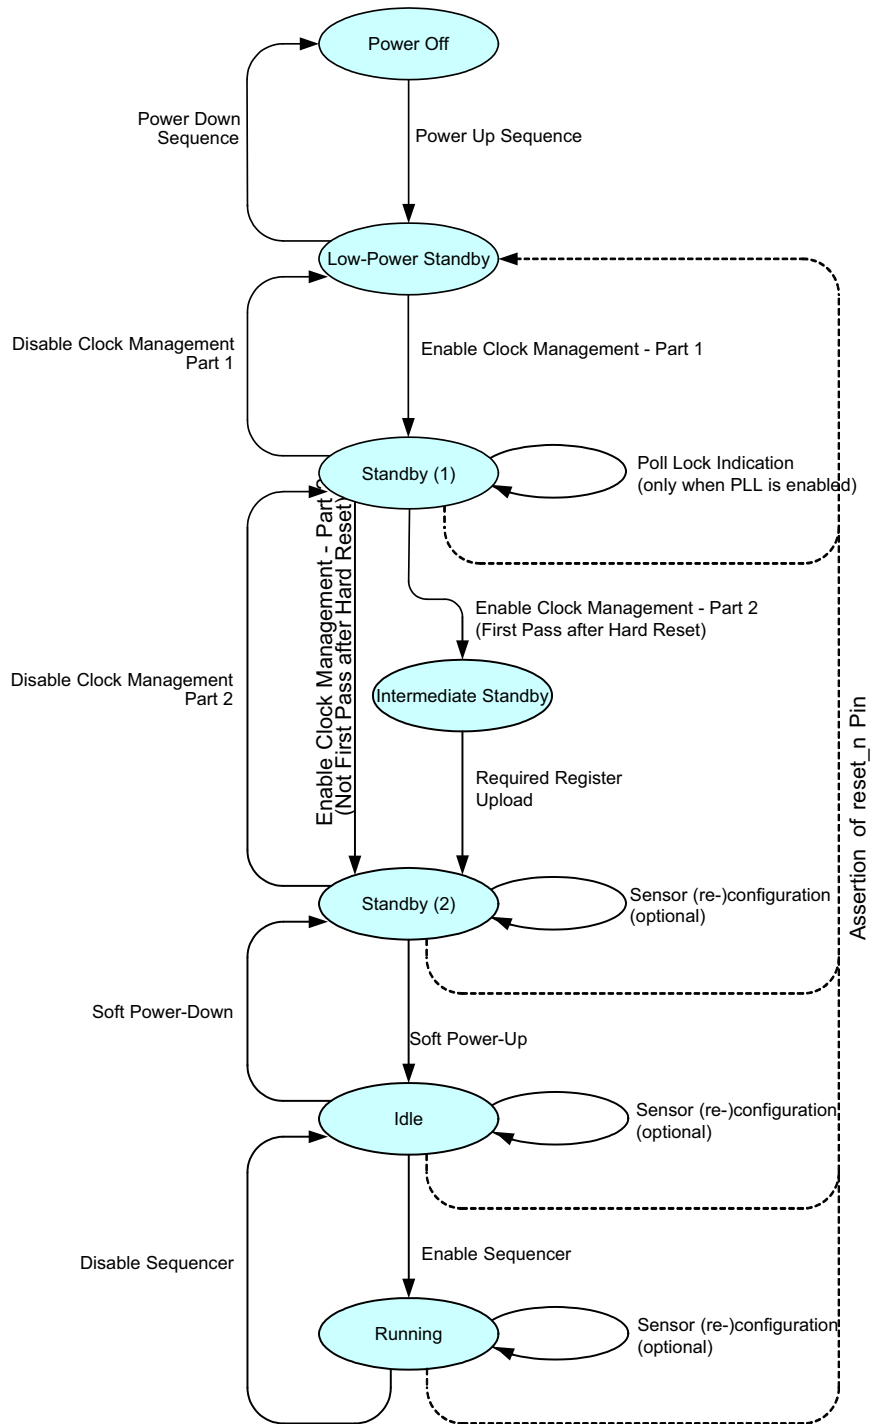

Figure 17. Sensor Operation Flowchart
Figure 17 shows the sensor operation flowchart. The sensor has six different 'states'. Every state is indicated with the oval circle. These states are Power off, Low power standby, Standby (1), Standby (2), Idle, Running.
Check the PLL_lock flag 24[0] by reading the SPI register. When the flag is set, the ‘Enable Clock Management– Part 2’ action can be continued. When PLL is not used, this step can be bypassed as shown in Figure 17 on page 15.